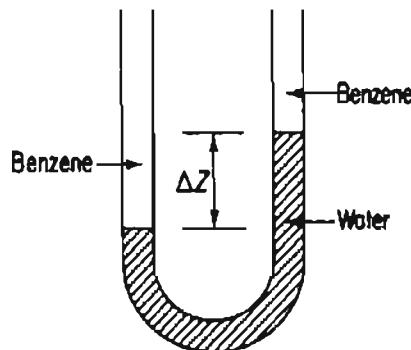

Figure P5.30
- *5.30 The indicating liquid in the manometer shown in Figure P5.30 is water, and the other liquid is benzene. These two liquids are essentially insoluble in each other. If the manometer reading is $\Delta Z = 36.3 \text{ cm}$ water, what is the pressure difference in kPa? The temperature is 25°C .